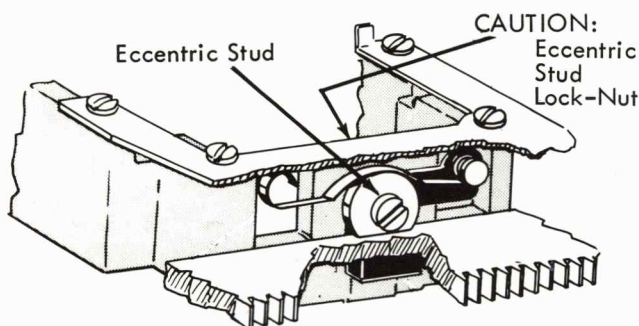

FIGURE 92. Carrier Shoe - New Style
- b. Carrier Shoe (late) - Adjust the upper carrier shoe eccentric mounting stud to provide .002" to .006" vertical motion of the carrier at the rear (Fig. 92) when the spring load on the upper shoe is suppressed.